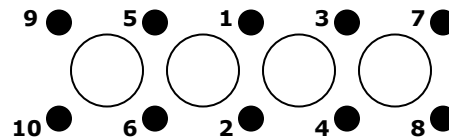

Figure 1
- Torque the head studs in the four stages shown, following the sequence shown in Figure 1.